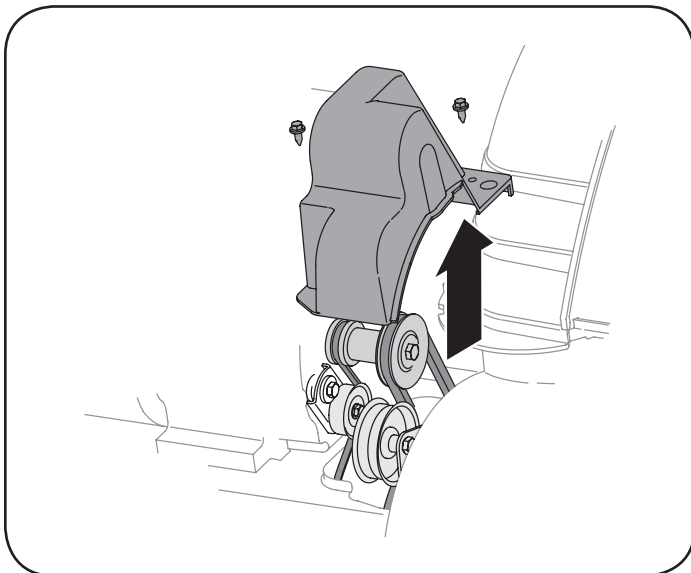

Figure 30
2. Remove the plastic belt cover on the front of the engine by removing the two self-tapping screws. See Figure 30.
2. Remove the plastic belt cover on the front of the engine by removing the two self-tapping screws. See Figure 30 on previous page.